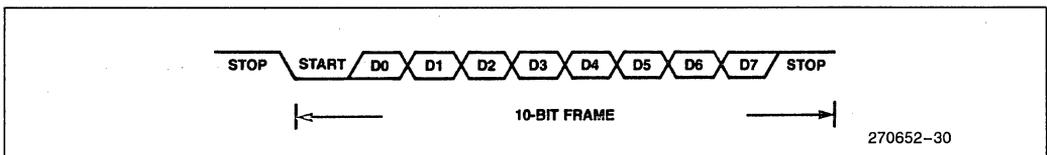

Figure 38. Serial Port Frame_Mode 1
Mode 1 is the standard asynchronous communications mode. The data frame used in this mode is shown in Figure 38. It consists of 10 bits; a start bit (0), 8 data bits (LSB first), and a stop bit (1). If parity is enabled, (the PEN bit is set to a 1), an even parity bit is sent instead of the 8th data bit and parity is checked on reception.